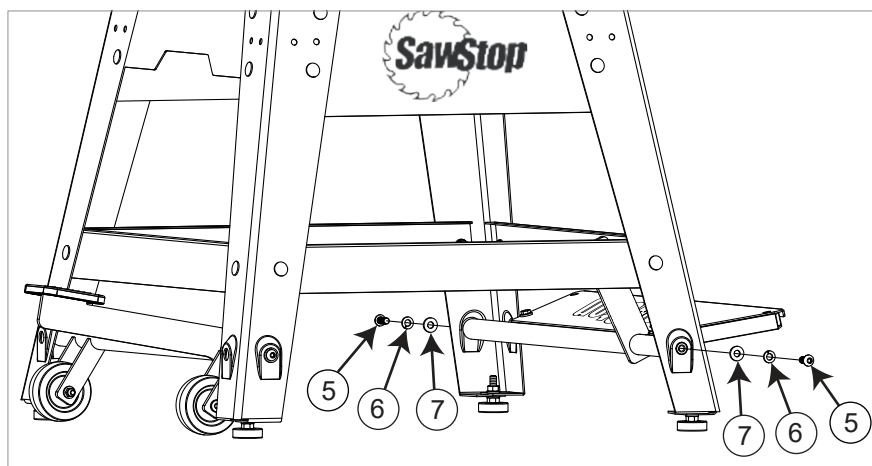

Fig. 7
7. Each end of the caster support has a cylindrical projection. Mount the caster support to the right side of the stand by inserting the cylindrical projections into corresponding mounting holes in the legs of the stand, and then securing the support to the stand with two M8 x 20 button head socket screws, two M8 lock washers, and two M8 washers, as shown in Fig. 7. Fully tighten the two M8 x 20 button head socket screws using a 5 mm hex key. Make sure that the SawStop logo on the support plate is facing up and that the connecting lever is on the inside of the stand.